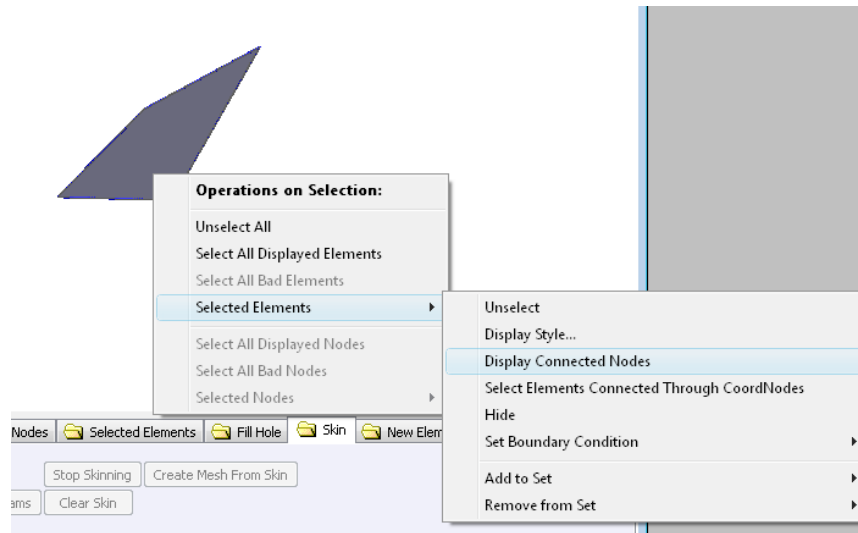

Figure 5.37 Display Connected Nodes of Selected Element.
- Select a Bad Element by left-clicking on it while holding down the *shift-key*. To display coordinate nodes of this element, right-click with *shift-key* held down and select: **Operations on Selection** → **Selected Elements** → **Display Connected Nodes**. (Figure 5.37)